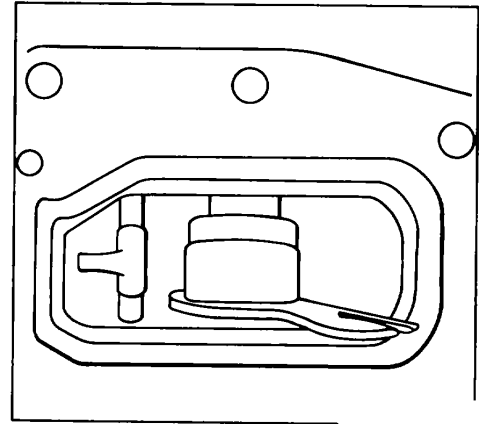

Figure 179.
bottom of the control housing. Lubricate servo valve spool (23) with clean transmission oil and insert into control housing through valve sleeve (22). Check for free movement. Any roughness may be removed with 500 grit emery cloth. See Fig. 179.